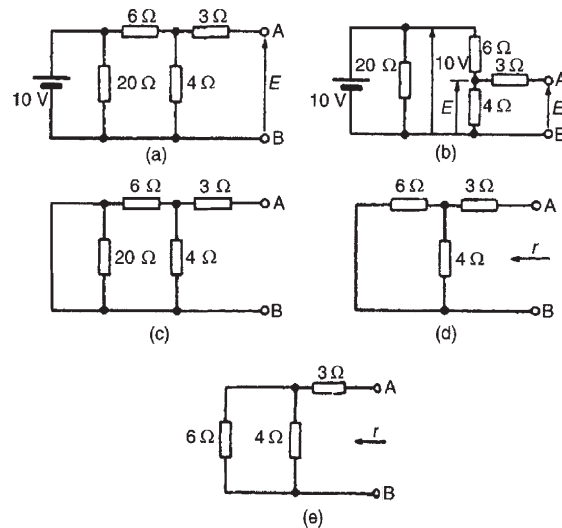

Figure 13.33
- (v) For the circuit shown in Fig. 13.33(a), the 3Ω resistor carries no current and the p.d. across the 20Ω resistor is 10 V . Redrawing the circuit gives Fig. 13.33(b), from which
- (vi) If the 10 V battery in Fig. 13.33(a) is removed and replaced by a short-circuit, as shown in Fig. 13.33(c), then the 20Ω resistor may be
removed. The reason for this is that a short-circuit has zero resistance, and 20Ω in parallel with zero ohms gives an equivalent resistance of $(20 \times 0)/(20 + 0)$ i.e. 0Ω . The circuit is then as shown in Fig. 13.33(d), which is redrawn in Fig. 13.33(e). From Fig. 13.33(e), the equivalent resistance across AB ,